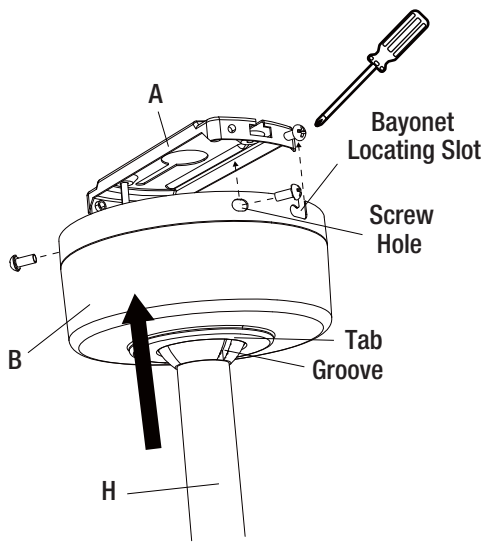

Figure 9
- When the electrical connections are established, take the fan off the hook. Slide the ceiling canopy (B) up the downrod (H), making sure the ball joint groove engages with the ceiling canopy entry hole tab. Slide the bayonet slots on the ceiling canopy (B) into the screws at either end of the mounting bracket (A) and secure with the four screws provided (Figure 9).